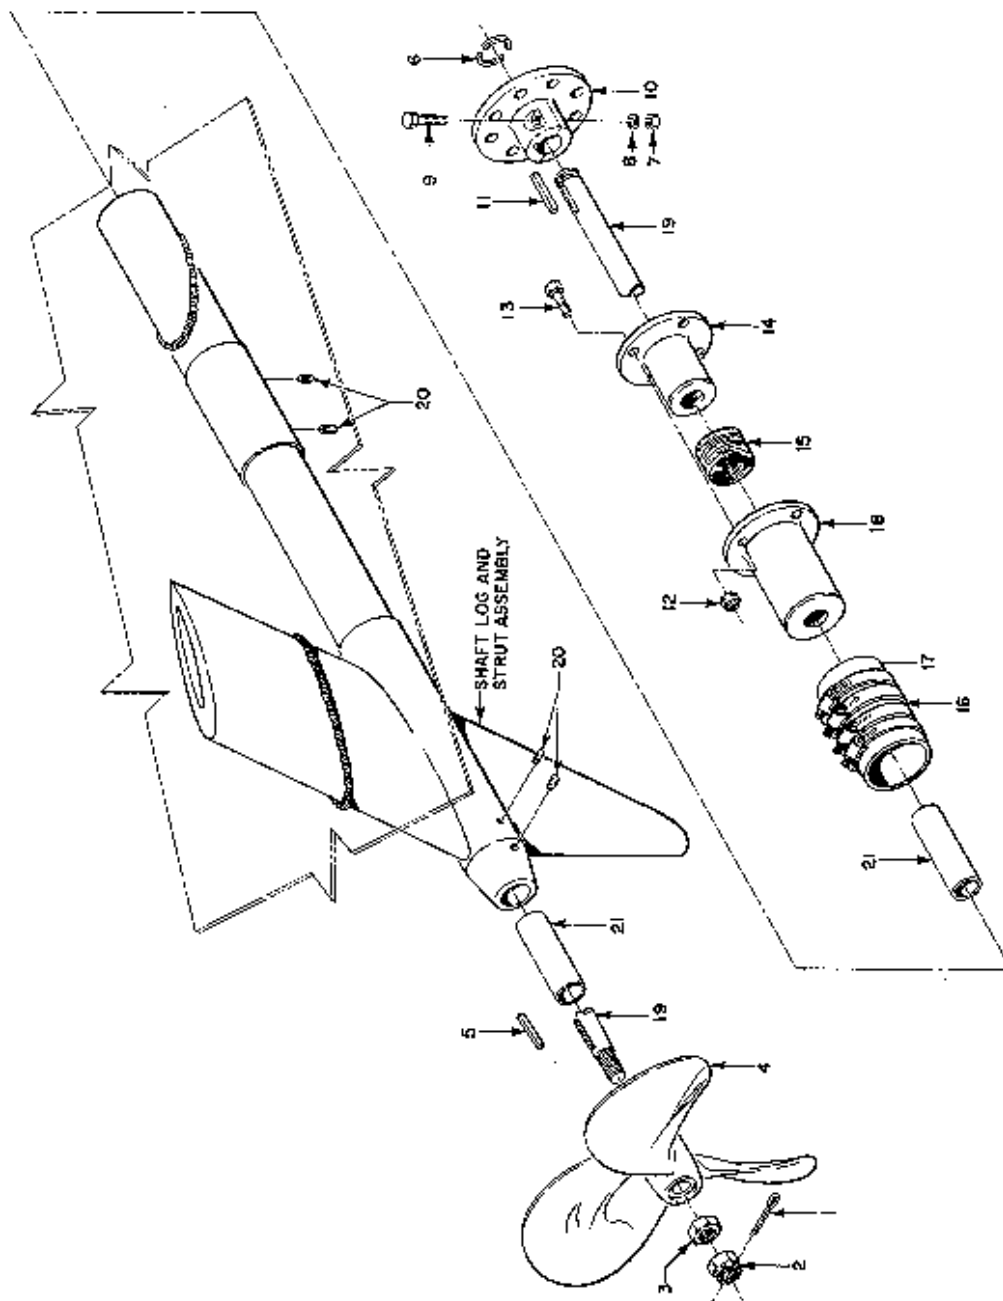

Figure 4-3. Propeller and Shafting Removal
b. Remove cotter pin (1, Figure 4-3).
4-87. SHAFTING. Remove coupling, stuffing box, shaft and bearings by following the sequence of index numbers shown in Figure 4-3 and as follows:
4-91. SHAFTING. Installation of the bearings, shaft, stuffing box, and coupling is accomplished by following the reverse sequence of index numbers shown in Figure 4-3 and as follows:
- b. Coat bearings (21) with light film of No-Lok or equivalent and install by tapping firmly. Aft bearing is completely installed when flush with shaft log. Forward bearing is correctly installed when mark (step a) is observed through set-screw hole.
- c. Lubricate shaft lightly with Ru-Glyde or equivalent. Slide shaft (19) into shaft log until distance from end of shaft is 11 1/4 inches.
- d. Secure stuffing box (18) to shaft log with hose (17) and clamps (16).
- e. When installing packing (15), stagger packing cuts to prevent excessive leakage. Install packing so that pull-down distance between the box flange and packing gland is approximately 1 1/2 inch. Do not tighten bolts (13) now.
- g. Alternately tighten packing box bolts (13) after engine alignment is correct.
- a. Coat shaft (19, Figure 4-3) with very light film of No-Lok or equivalent.
- d. Check fit of key (5) in slots of prop and shaft. Key should fit snug but not bind.
- e. Insert key (5) in shaft keyway.
- g. Install prop nut (3) and manually tighten.
- i. Tighten prop nut (3) until snug.